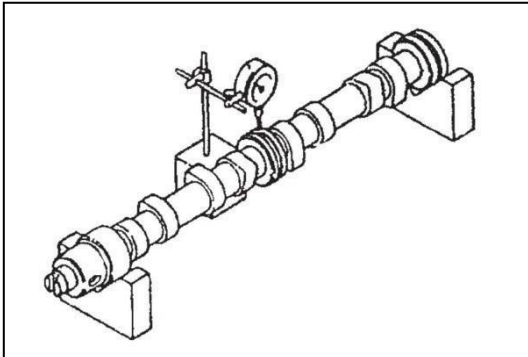

Figure 124
1. Use V-blocks and a dial indicator to check camshaft bend (Figure 124). Place the indicator on the center bearing journal.